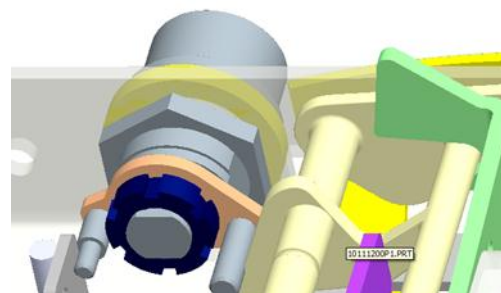

Figure 6
- Keep the lock in closed position and remove the key from the lock body (Fig 6).